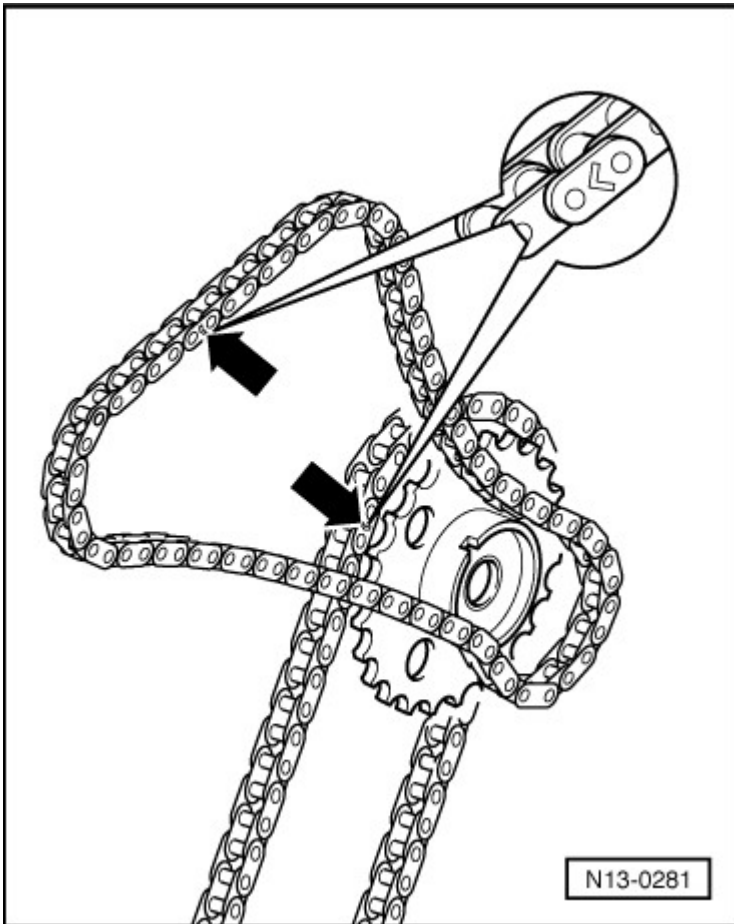

Fig. 5: Identifying Marks On Roller Chains
- Before removing, mark direction of rotation with paint **Fig. 5**